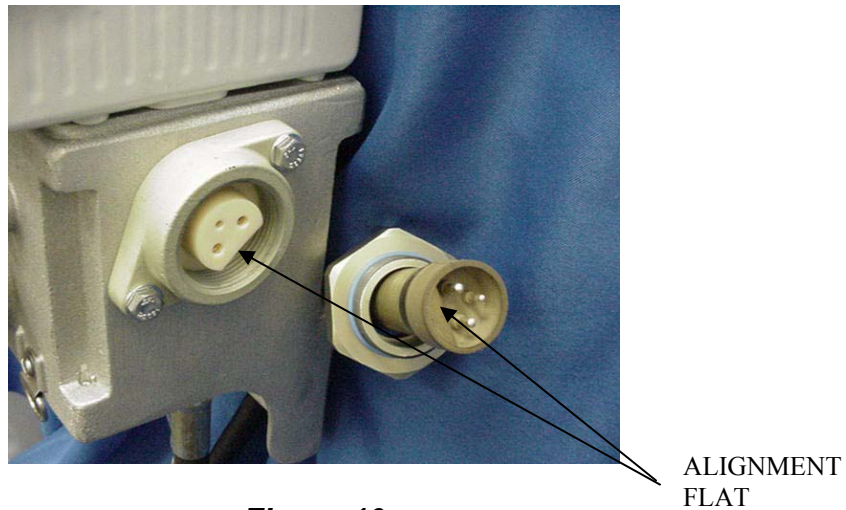

Figure 10
4. Retract 1-1/4 HEX NUT full from threads then pull cable free. See Figure 10.
6. Assure that 'flat' of cable is aligned with 'flat' of receptacle, while gripping the cable at the CABLE STRAIN RELIEF, fully seat cable within receptacle. See Figure 10.